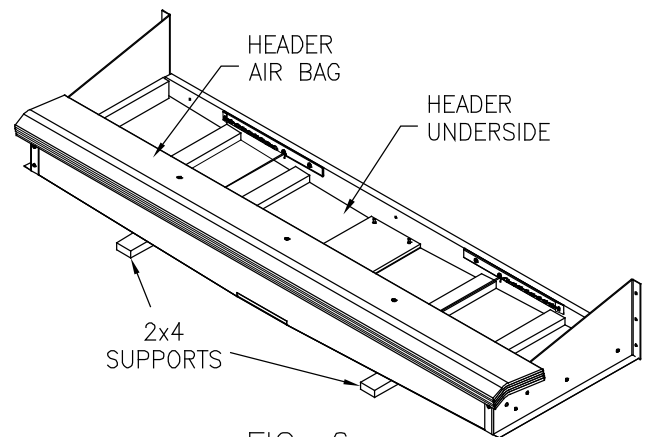

FIG. 6a
- Place head frame upside down on clean flat 2 x 4 supports (Fig. 6a).